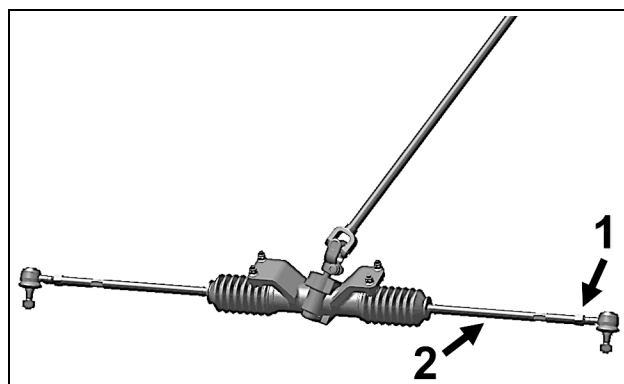

Figure 22
To adjust the SxS's steering system, first loosen coupling rod nut (1), then screw or unscrew the coupling rod (2) an equal number of revolutions on both sides of the vehicle. See Figure 22.
**CAUTION:** Remember that some nuts have reverse threads before loosening a coupling rod nut (1) on the vehicle's steering system. Make sure to unlock the nut in the proper rotational direction.